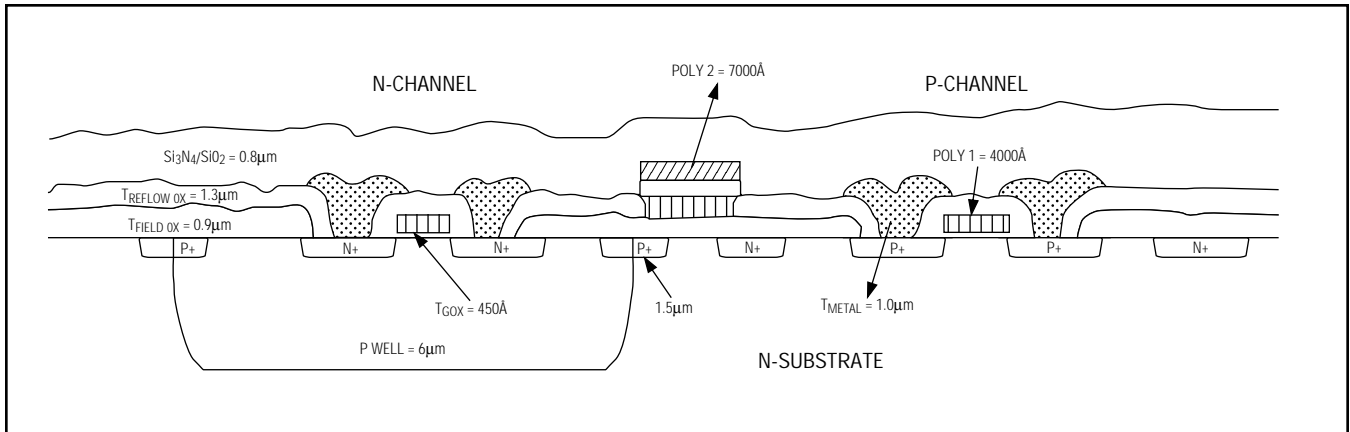

Figure 4. SG3 Process
### (4) SG3 (Refer to Figure 4)